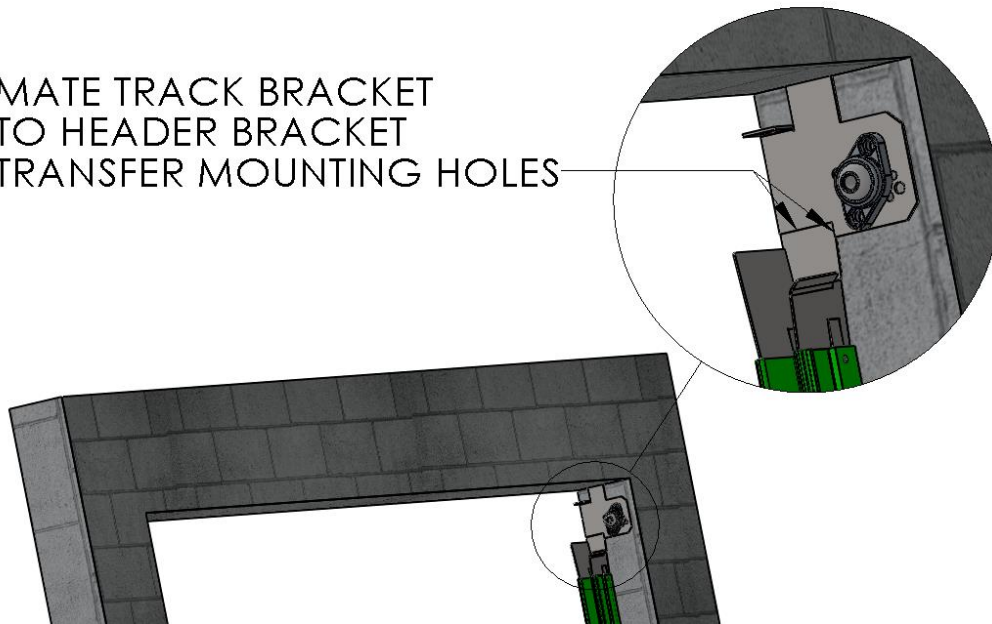

Figure 4 LOCATE, MARK, INSTALL TRACK ASSEMBLIES
1. To locate the Track Assemblies, align the mating surfaces of the Track Transition Bracket and the Header Mounting Bracket. (Figure 4 LOCATE, MARK, INSTALL TRACK ASSEMBLIES)